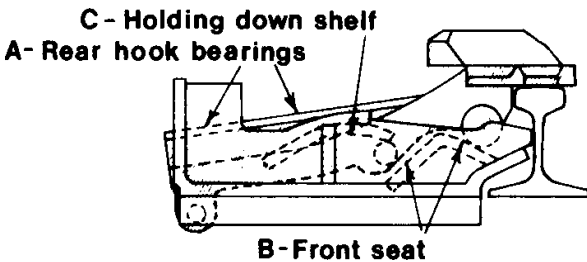

Figure 30 - Lubrication of Sliding Derail
17. A derail should be lubricated the same as other track and signal devices. See Figure 30, Sliding Derail Lubrication.